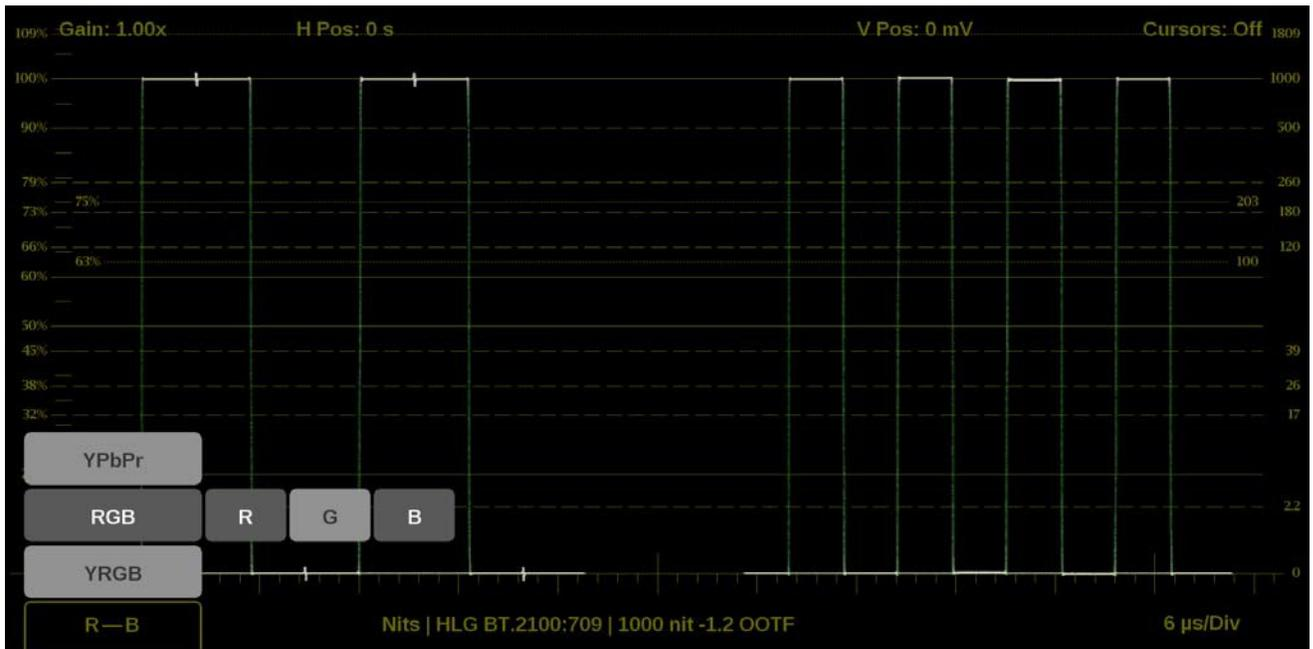

Figure 89: Waveform on-screen tools – Display Mode
1. Select the button in the bottom left corner of the application to expand the available display options. (See Figure 89.)